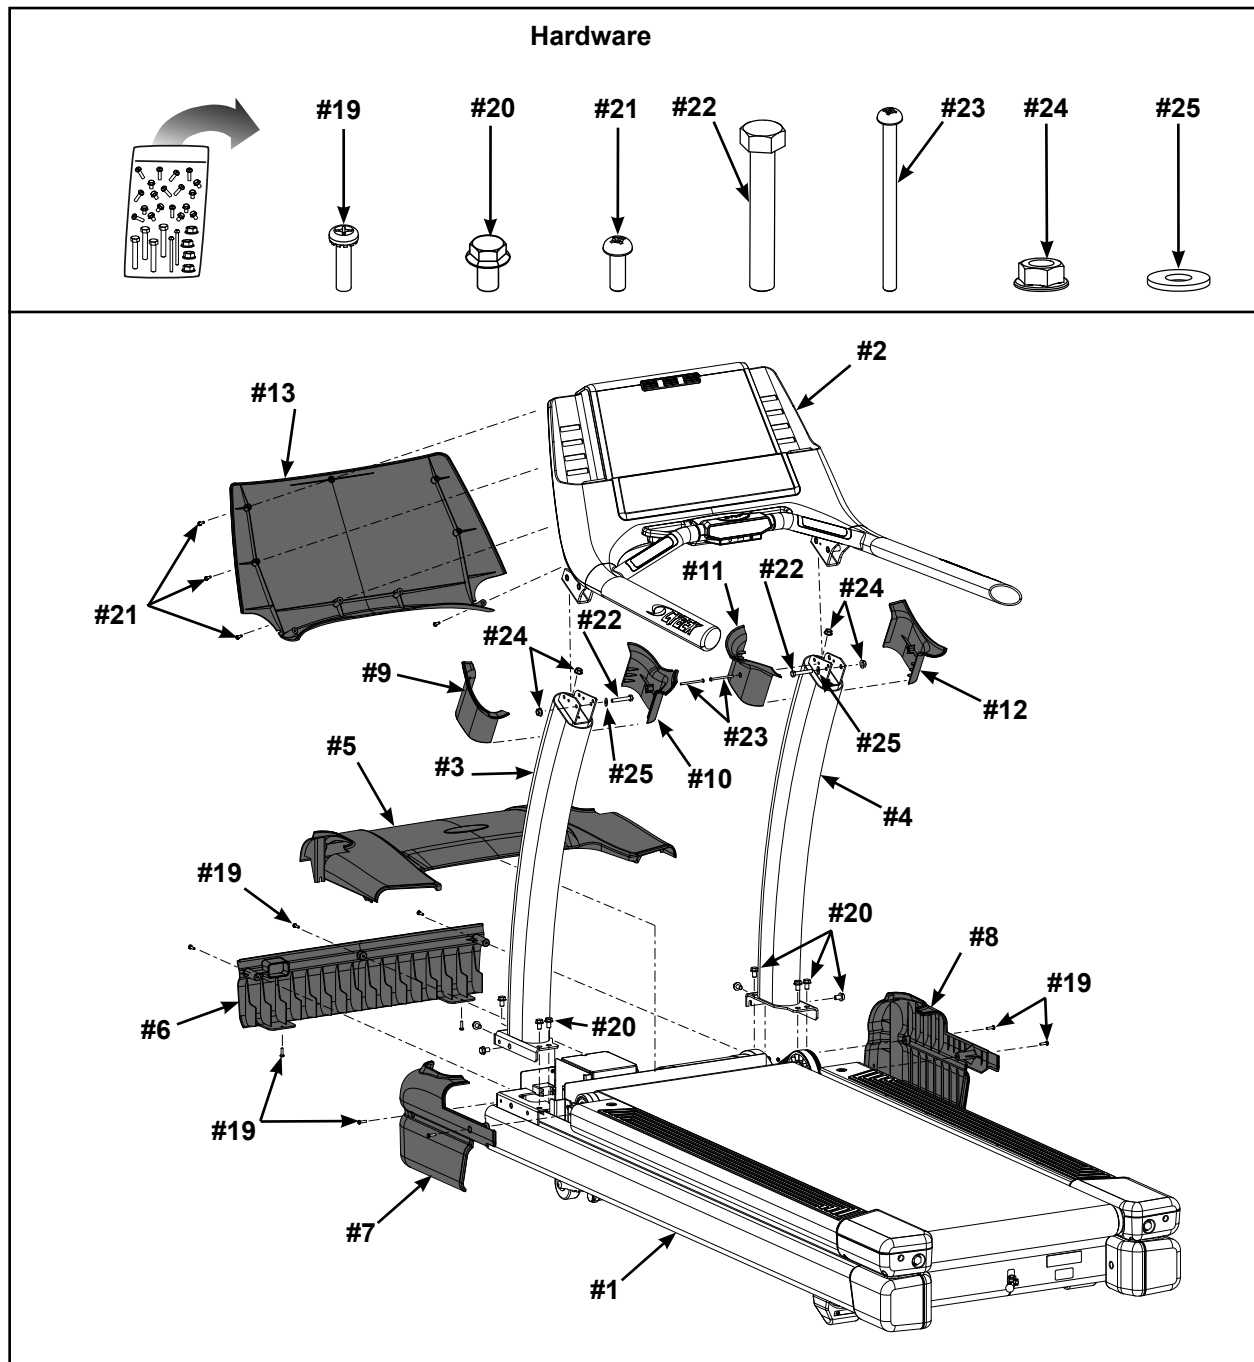

Figure 2
C. Check off (☑) each item in the hardware pack as you find it. See Figure 2.